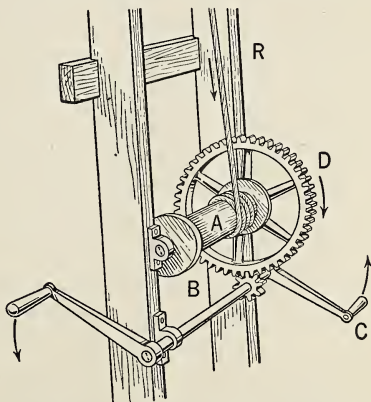

FIG. 290. A winch used with a derrick.
13. Fig. 290 shows a winch for use with a simple derrick. The crank *C* is 2 ft. long. The axle upon which the rope winds is 4 in. in diameter. There are 60 cogs in *D* and 10 in *B*. If the end of the rope *R* is attached to a system of pulleys in which 5 strands support the movable block, what force at *C* will be required to lift a weight of 12,000 lb.?